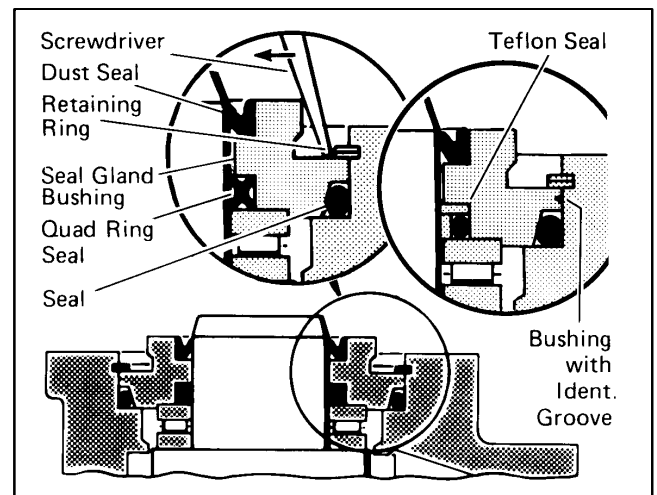

Figure 43
13. Install 1-1/4" diameter dust seal in seal gland bushing, flat or smooth side of dust seal must face down towards bushing, see Fig. 43.
14. Install the quad ring seal in seal gland bushing. Smooth seal in place with your finger. Do not use any seal that falls freely into pocket of bushing, see Fig. 43.